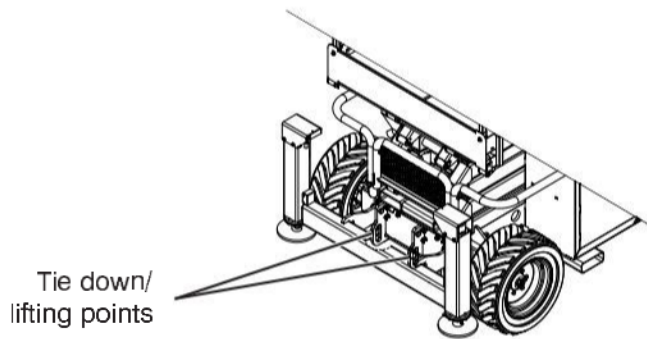

Figure 3-6. Tie Downs/Lifting Points
- The lifting/rigging must be attached to all four lifting points as illustrated in Figure 3-6.
When transporting, the aerial platform must be secured to the truck or trailer deck. Tie downs are available as illustrated in Figure 3-6.